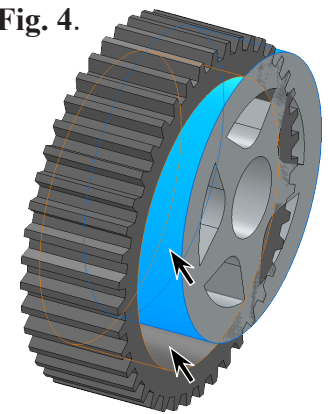

Fig. 4
Step 4. Click a **cylindrical face of Rim** and a **cylindrical face of Tire**, **Fig. 4**.